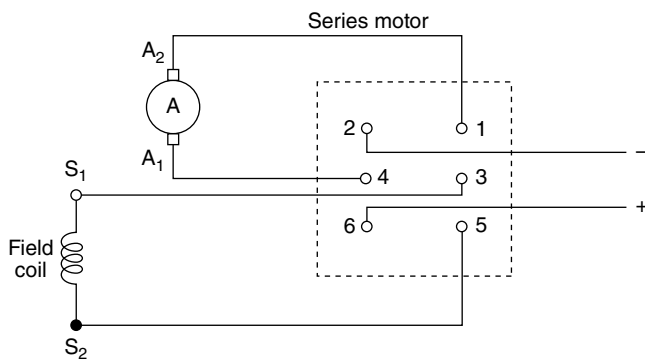

Fig. P-4
4. Using Fig. P-4, draw lines to complete the circuit between the switch terminals to cause the series motor to run in the *reverse* direction.